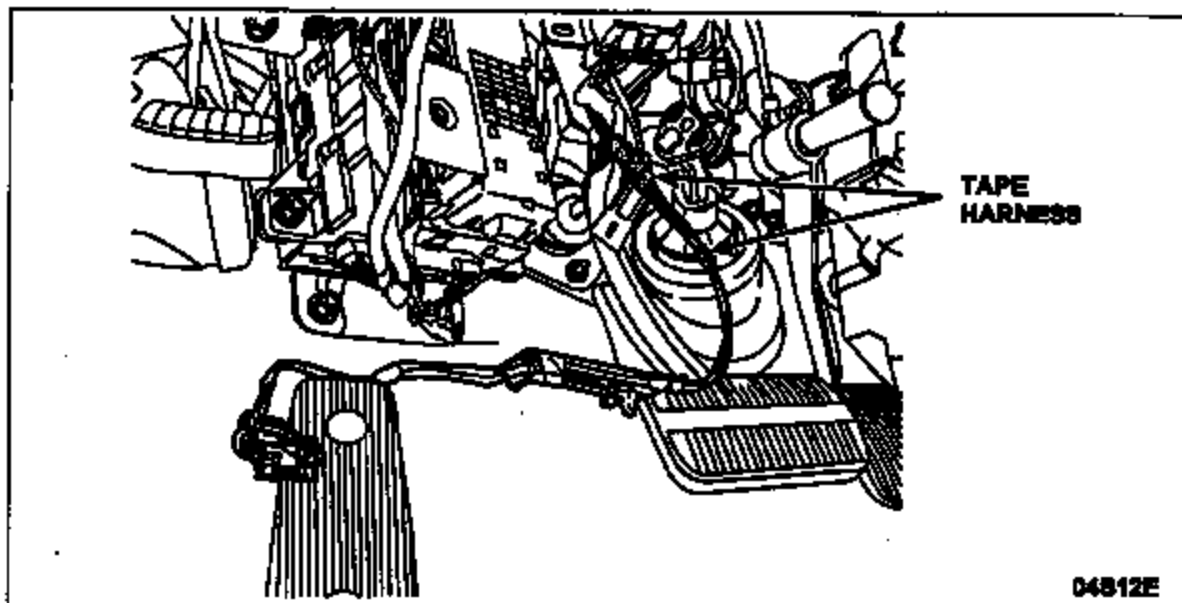

FIGURE 5
10. Using vinyl electrical tape, secure the butt splice and the harness wires together in two or three locations. See Figure 5.